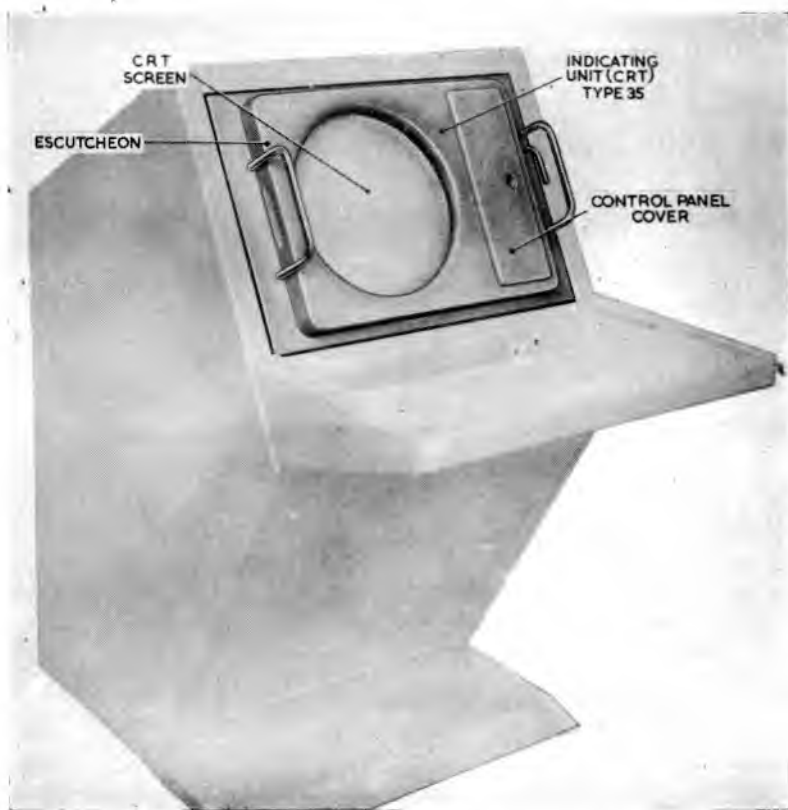
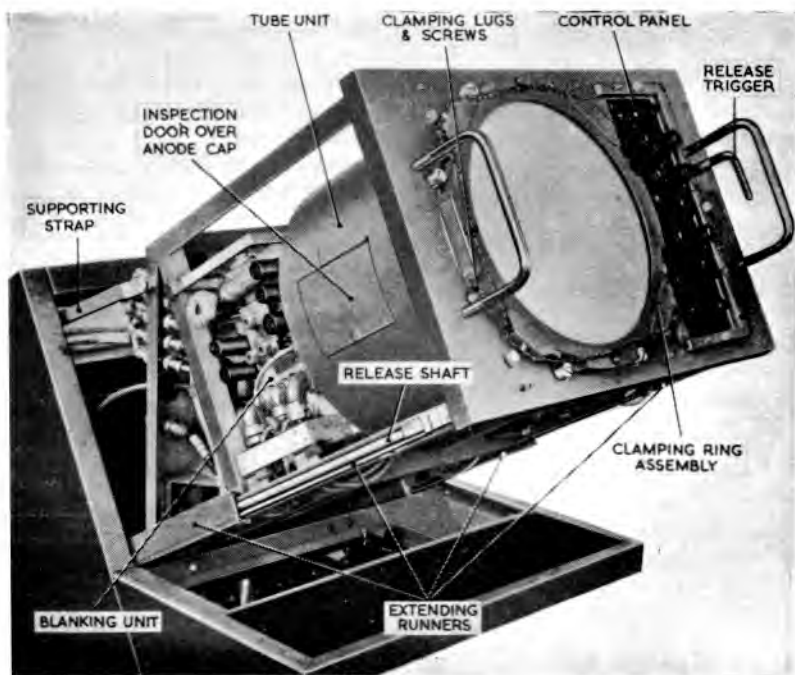
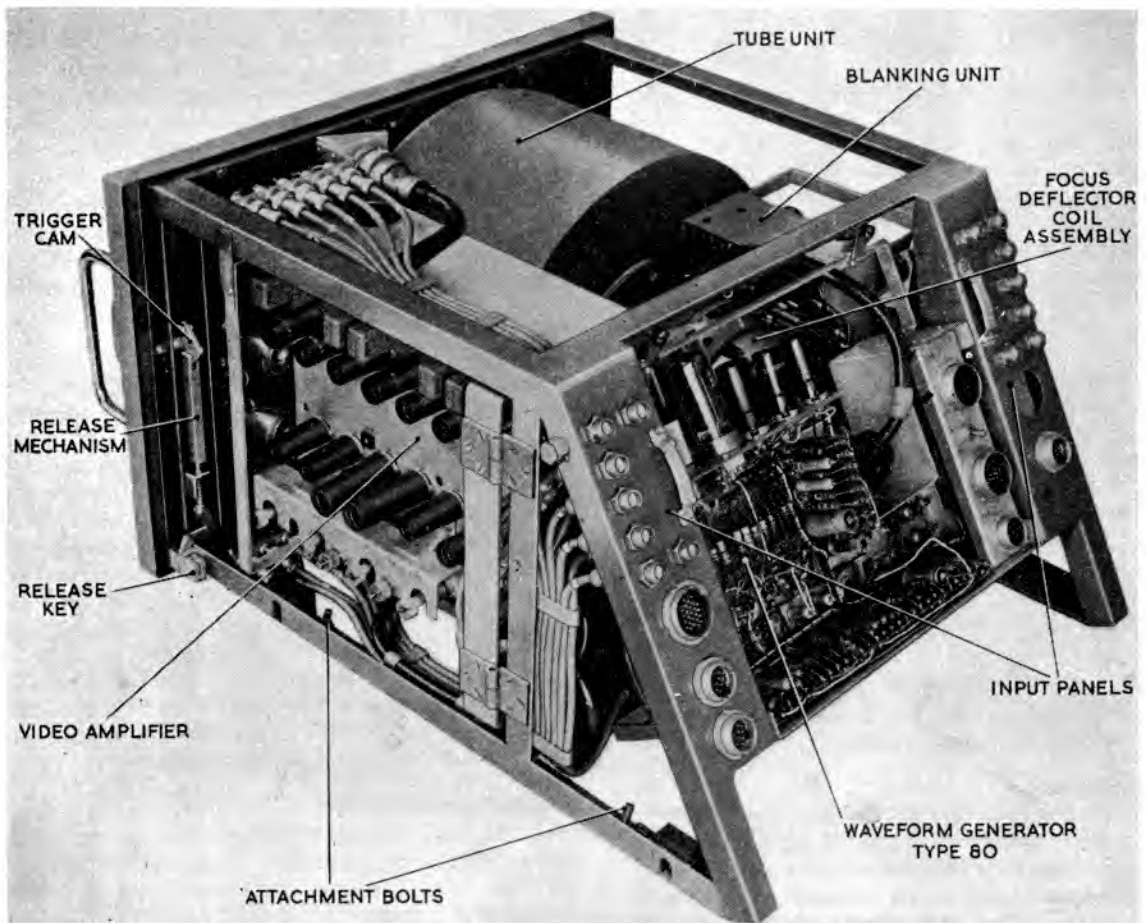
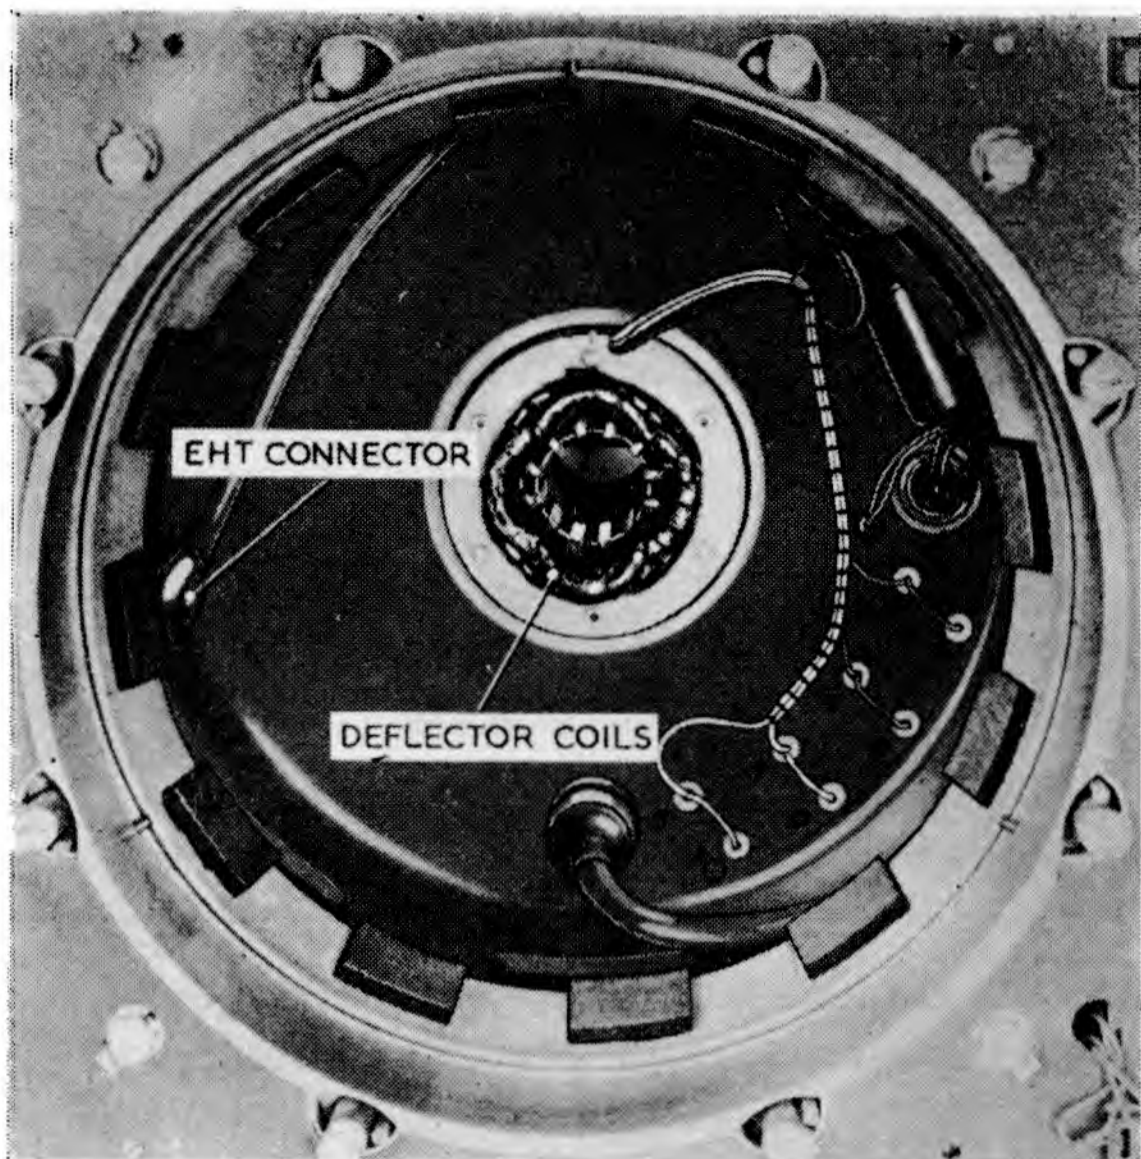

Fig. 1. Location of indicating unit in console Type 64
Fig. 2. Indicating unit withdrawn from console
Fig. 3. Rear view of indicating unit
Fig. 4. Interior of Tube housing
1. A general description of the console Type 64, with brief information on the units in it, has already been given in Chap. 2, Sect. 1 of this Part. The chapters of Section 5 deal with the console units in greater detail. The location of these units in the console is shown in fig. 1 of Chap. 1, Sect. 1, Part 2.
2. The *indicating unit (CRT) Type 35* (Stores Ref. 10Q/16085) forms the upper part of the console Type 64, as shown in fig. 1. In the indicating unit are located:—
3. The indicating unit may be drawn out on its runners (*fig. 2*) without detaching any of the connectors and without interrupting the operation of the console. This permits running adjustments to be made to certain preset controls
4. The indicating unit, which weighs 119 lb. complete with its sub-assemblies, is constructed in a rigid welded steel frame (*fig. 3*). To allow free circulation of air round all units this framework is not covered in except by the front panel, which is cut away for the CRT screen and the adjoining control panel. The massively-constructed mumetal-covered tube unit, cylindrical in shape, is attached to the front panel by four bolts around the circumference. On the left-hand side of the tube unit (as seen by the operator) is a hinged inspection flap giving access to the CRT final anode side-cap and its EHT connector. To the rear of the main tube housing is attached the focus/deflector-coil assembly. At the rear of the indicating unit framework are its two input panels (right-hand and left-hand), which are inclined at an angle of 60 deg. to the main framework members, so
5. The control panel is fixed to the front panel of the indicating unit by four countersunk-head 2 BA screws. Side illumination of the knobs and markings on the control panel is provided by four 6V lamps (known as the *dial lights*) concealed inside a C-shaped lamp mounting channel running round three edges of the panel (fig. 2). Similar side illumination for any engraved transparency that may be placed in front of the CRT screen is available from four other 6V lamps (known as *screen lights*) concealed in the clamping ring assembly. In normal working, both the lamp mounting channel and the clamping ring assembly are hidden by a plain sheet-metal escutcheon (fig. 1), which clips on to the front panel between the two handles. The escutcheon is cut away for the CRT screen, and has a rectangular hinged cover to give access to the control panel.
the operator), and retained by a single knurled captive screw. The BRILLIANCE control is located on this unit. The blanking unit (which carries the FOCUS control) is the small chassis mounted in a similar manner on the left-hand side. The waveform generator Type 80, which has a portion cut away to clear the CRT base (fig. 3), is at the rear of the framework and is retained by two captive screws to the upper horizontal member.
7. When in position in the console framework the indicating unit is mounted on three-draw telescopic runners (fig. 2). These runners are inclined at 30 deg. to the horizontal, so that in the working position the front panel slopes back at 30 deg. to the vertical. To bring the unit out to the forward position shown in fig. 2, it is only necessary to grip the two front handles, pull the release trigger and draw the unit forwards and upwards along the runners. Spring-loaded catches at the rear of the forward runners engage when the unit has been pulled right forward, and hold it locked in the forward position; but as an extra precaution it is advisable to take part of the weight off the catches by erecting the supporting straps (fig. 2) at either side, before working on the unit. When servicing has been completed the unit may be returned to the normal position
8. When the release is pulled, it operates the trigger cam (*fig. 3*), which turns the release key at each side of the unit by means of a link and coupling mechanism. The release keys engage with release shafts (*fig. 2*) mounted one inside each forward runner. When turned, the release shafts disengage the spring-loaded catches at the rear of the forward runners, enabling the indicating unit to be slid in and out.
9. Four slotted support blocks—of which two may be seen on the nearer framework member in *fig. 3*—fit over support spigots on the forward runners. Attachment bolts, working in the support blocks, engage in the support spigots and so secure the indicating unit to the runners. These attachment bolts may be turned and disengaged from the spigots so that the indicating unit may be lifted right off the runners.
13. The bulb of the cathode-ray tube is supported at the back, where it joins the neck, by the deflector-coil assembly, which is spring-loaded and presses closely against the flare. *Fig. 4* is a view inside the tube unit with the CRT removed, showing the deflector coils with the aperture for the CRT neck. The front part of the bulb is supported by twelve sponge-rubber pads disposed round a spring-mounted support ring. The CRT is forced home against the deflector coils and the support ring by the rubber-lined clamping ring assembly (*fig. 2*), which is held to the front panel by the eight clamping lugs. These engage on eight equally-spaced shoulders around the clamping ring. In normal use the clamping ring assembly is concealed by the escutcheon.
22. The purpose of the deflector coils is to produce, across the neck of the CRT, magnetic fields, which vary in exactly the same way as the voltage waveforms at the input to the deflection amplifiers. The fields required are (a) vertical (X), producing horizontal spot displacements and corresponding to the line scan of a television receiver, and (b) horizontal (Y), producing vertical movements and corresponding to the frame scan. Iron-cored coils are used, which have several advantages over air-cored coils, including greater sensitivity, smaller size, and minimum deflection defocusing and interaction between X and Y coils. The core is built up of laminations of high-permeability material to minimise eddy currents. The laminations are slotted (fig. 4), and into the slots are assembled twelve saddle-shaped windings, arranged to secure the best possible uniformity of field across the neck. The windings are internally connected in threes so that there are in effect four deflector coils (X1, X2, Y1, Y2). One end of each coil is commoned and brought out (red lead) to a stabilized +250V HT supply. The other four coil ends are brought out, inside the tube housing, to coaxial sockets for connection to the anodes of the final deflection amplifiers situated in the lower part of the console. It will be seen that the two coils of a pair act in push-pull; when the spot is centred a current of 120 mA flows in each coil, and a movement of the spot to the edge of the screen is effected by an increase of 80 mA in the current in (say) the